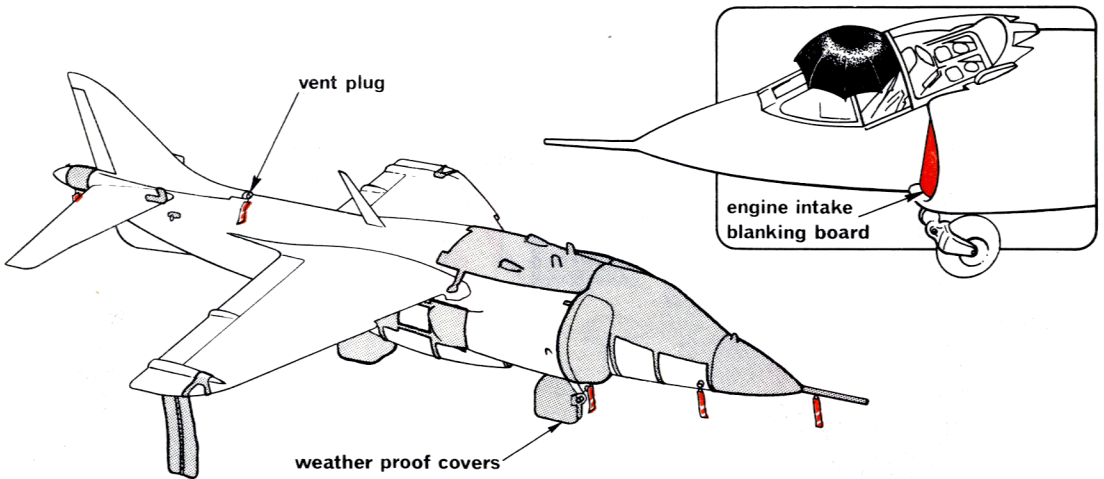

Fig. 6. Weatherproofing
13. Where an aircraft is likely to stand for a number of hours under strong sunlight, covers must be used to protect the cockpit or cabin transparencies. On the smaller, combat aircraft, it is common practice in these conditions to leave the cockpit hood open, provided that the cockpit itself is adequately shielded. The Harrier, for example, has its own sunshade. This is an umbrella-like cover which, when erected, is disposed over the top of the windscreen and under the front of the open hood (Fig. 6). When not in use it is stowed in a bag in the cockpit. Cockpit hoods are never left open in snow, rain, or damp conditions.